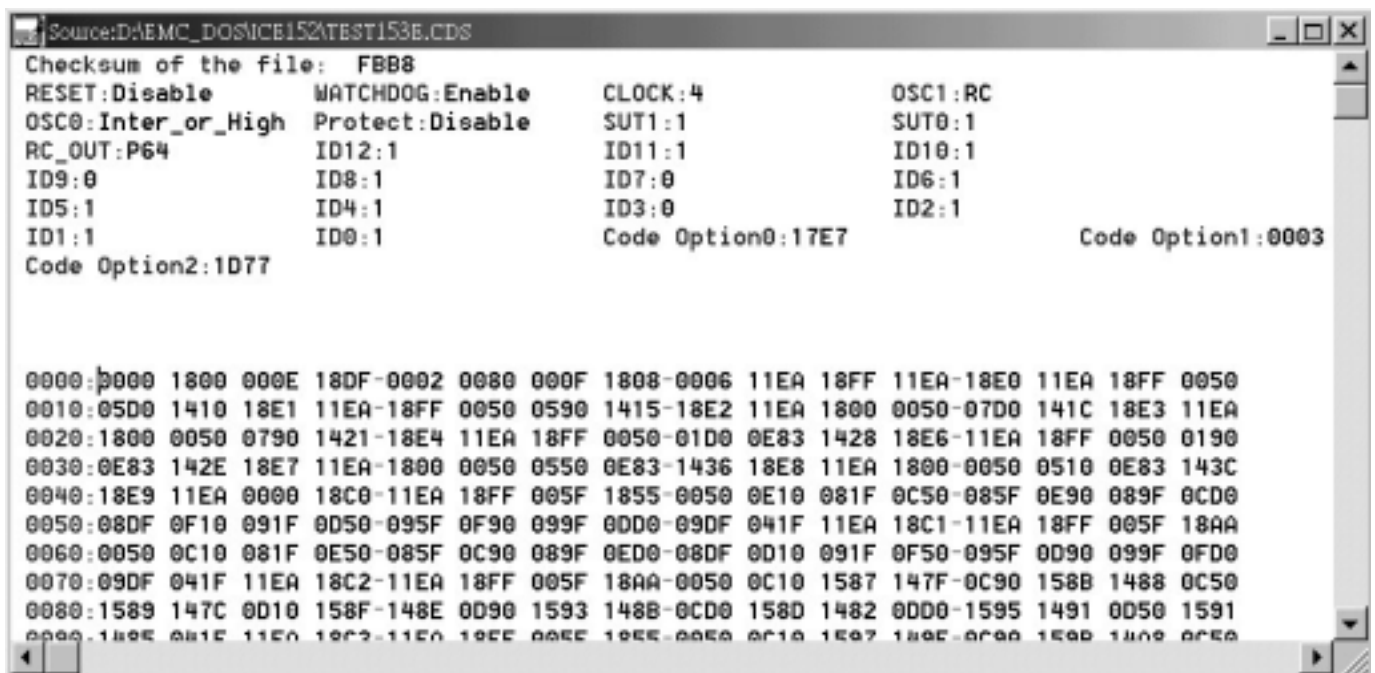

Fig. 12:Source window
Step 3: The source file window shown as Fig. 12 consists of check sum, option, code option value and code data.